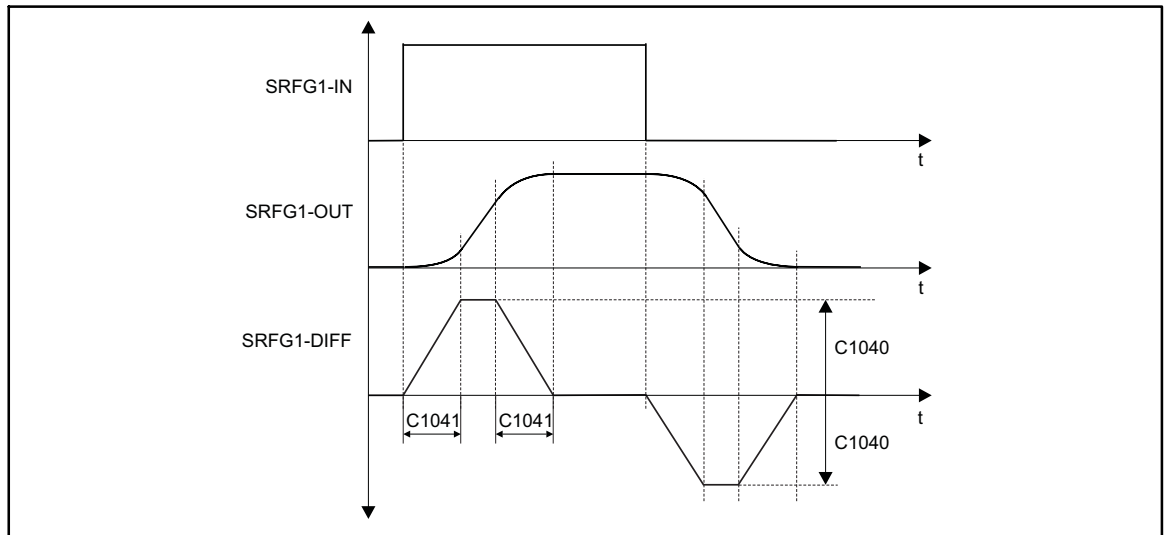

Fig. 2-136 Characteristic of the ramp function generator
- The acceleration characteristic (signal at SRFG-DIFF) in Fig. 2-136 shows the linear rising or falling of the signal during the rounding time (C1041).